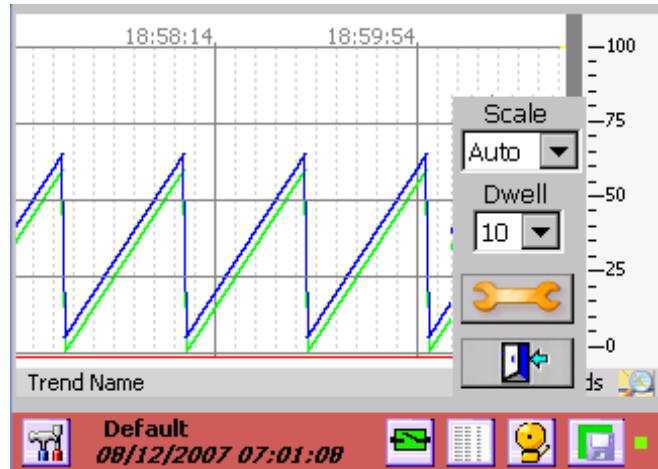

Figure 5-3-4 Trend Scale Setup
**Trend Name:** Enter up to 20 characters to uniquely identify the Trend display. This appears on the bottom left of the display screen – see Figure 5-3-4 .